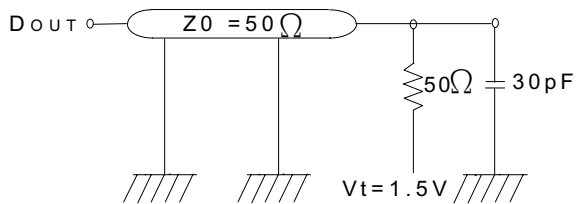

Fig.1 OUTPUT LOAD EQUIVALENT
| Output load                   | See Figures 1 and 2 |
5. Test conditions as specified with the output loading as shown in Fig. 1 unless otherwise noted.
13. Capacitance derating applies to capacitance different from the load capacitance shown in Fig. 1.